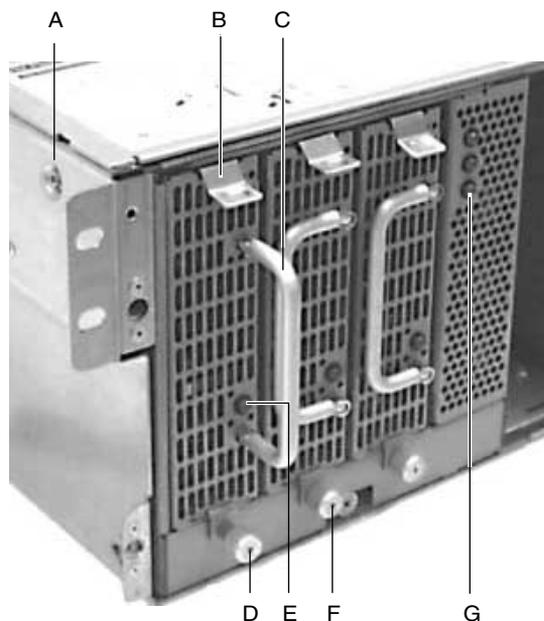

Figure 2-5 Power Subsystem
Figure 2-5 shows the power subsystem bay with three power supply modules installed.
2. Loosen the power supply module retaining screw. See Figure 2-5 on page 34 for the location of the screw.
4. Loosen the screw on the front of the chassis. This screw is noted by “F” in Figure 2-5 on page 34.
5. Release the two screws on each side of the chassis. One of the screws is noted by “A” in Figure 2-5 on page 34.
4. Tighten the screw on the front of the power subsystem bay. The screws are noted by "F" in Figure 2-5 on page 34.
9. Tighten the two screws on each side of the chassis. One of the screws for each side is noted by “A” in Figure 2-5 on page 34.